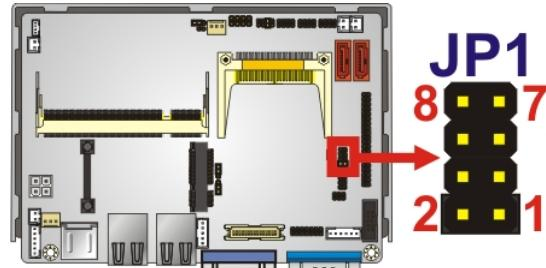

Figure 4-8: COM6 RS-232/422/485 Selection Jumper Location
**Jumper Location:** See Figure 4-8